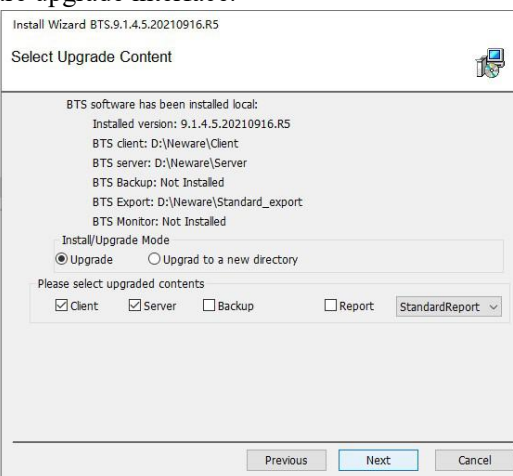

Figure 3-10 Selection of upgrade content
3. Click **Next**. On the **Select Upgrade Content** page, you can select the upgrade mode and upgrade content as required. Upgrade mode By default, the client and server are upgraded in the original directory, as shown in Figure 3-10. Click **Next** to confirm the warning content and enter the software upgrade interface.